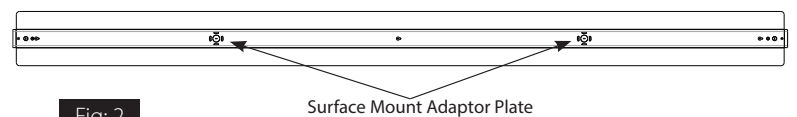

Fig: 2
1. Secure **Surface Mounting Plate** to Junction Box (*by others*). (Additional attachment to the ceiling may be needed for longer fixtures). 8ft TOMO includes a 2nd **Surface Mounting Plate** and **Surface Mount Adaptor Plate** for optional use (*see Fig. 2*).